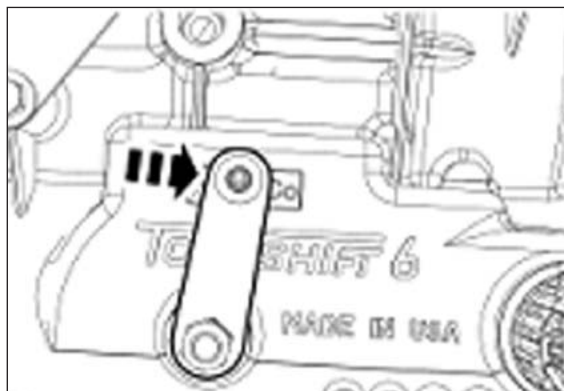

Figure 85
6. Move the manual control lever all the way forward into the LOW position, then move it 3 detents rearward (**Fig. 85**).